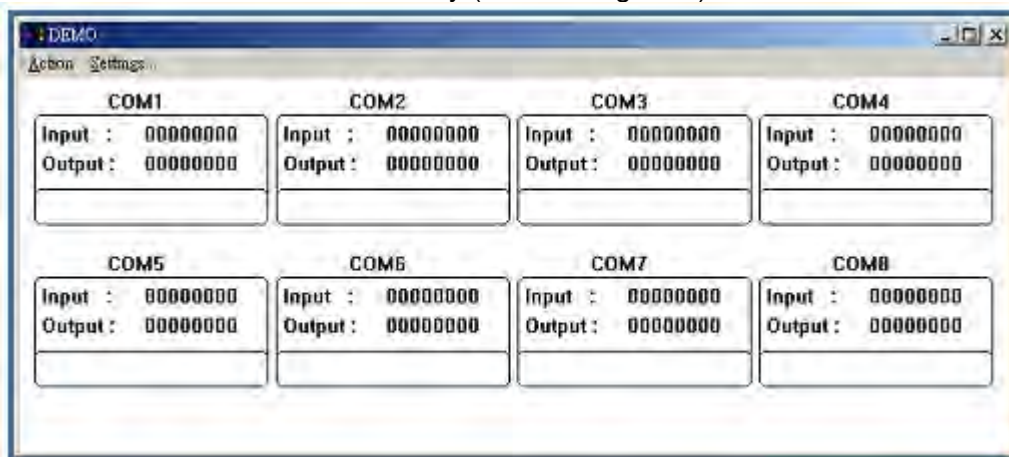

Fig.1
**STEP1:** Run the "DEMO.EXE" utility (See the Figure 1).